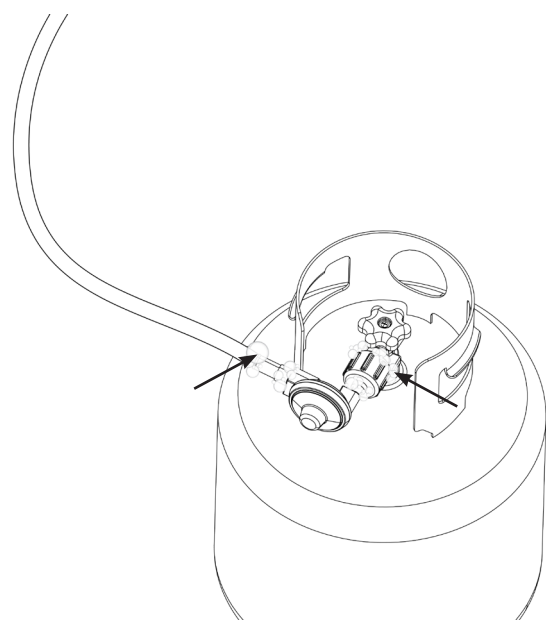

Figure 02
4. Use a clean paintbrush to brush a 10/90 mild soap and water solution onto joint areas of the valves and regulator. (Indicated by arrows in Figure 02).